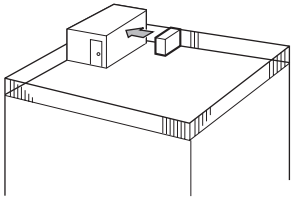

Fig. 2-16
- ① Face the air outlet towards the nearest available wall about 50 cm away from the wall. (Fig. 2-16)